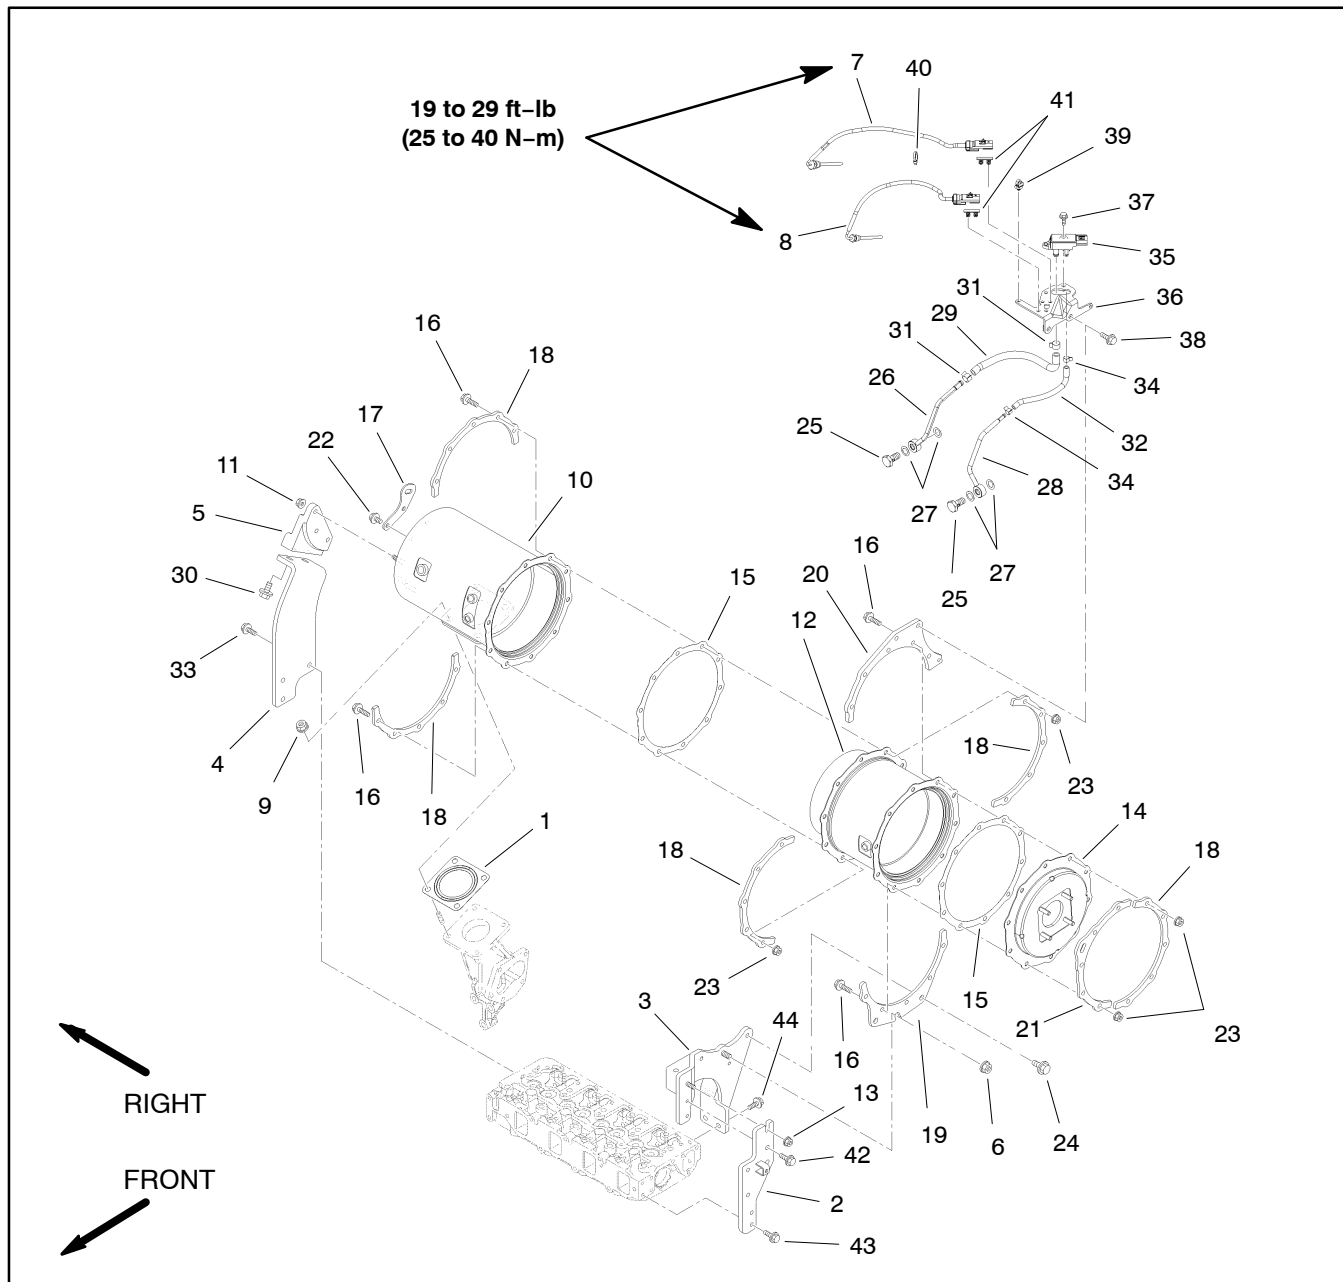
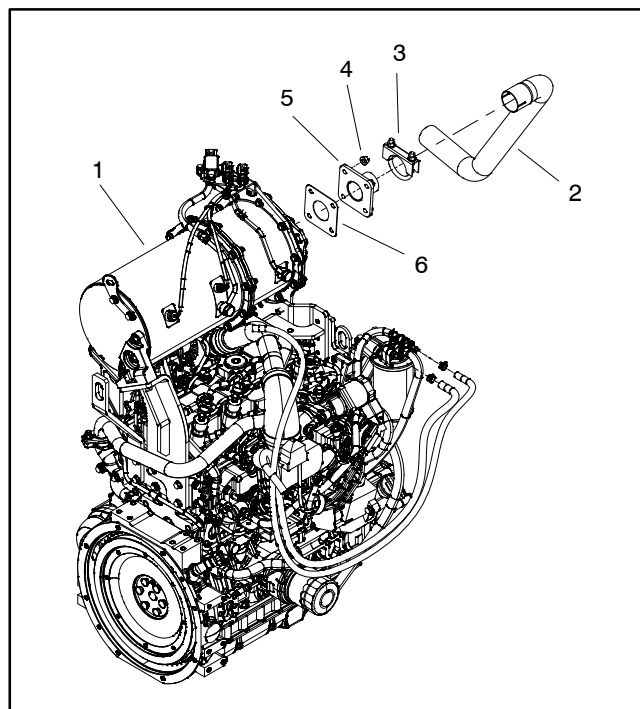

Figure 18
Figure 19
### Removal (Figs. 18 and 19)
2. Remove exhaust system components from the engine as necessary using Figure 18 and 19 as guides. Discard all removed gaskets (items 1 and 15 in Fig. 18 or item 6 in Fig. 19).
### Installation (Figs. 18 and 19)
2. Assemble all removed exhaust system components using Figure 18 and 19 as guides.
- A. If exhaust sensors (items 7 and 8 in Fig. 18) were removed, torque sensors from **19 to 29 ft-lb (25 to 40 N-m)**.
- B. If exhaust pressure pipes (items 26 and 28 in Fig. 18) were removed, replace sensor gaskets (item 27) on both sides of the pressure pipe fitting.
- C. If DPF stiffeners (items 18, 19, 20 and 21 in Fig. 18) were loosened or removed, tighten fasteners that secure stiffeners before tightening fasteners that secure exhaust system to DPF stays.